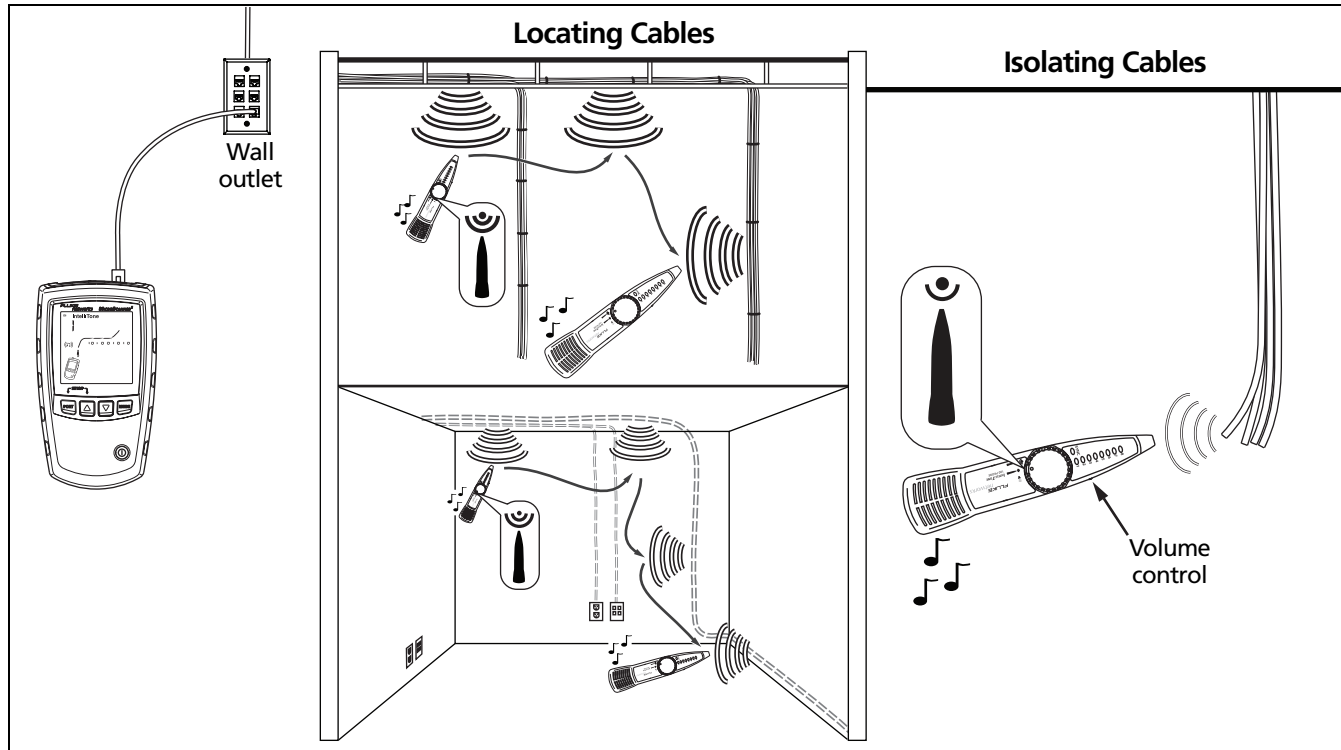

Figure 25. Using the Toner in IntelliTone Mode
- 6 Use the probe to find the general location of the tone at a cable rack, patch panel, or behind a wall, as shown in Figure 25. The **SYNC** LED lights up green when the probe is receiving the IntelliTone signal.